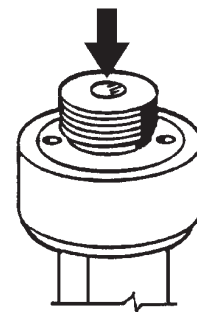

FIGURE 4
- c. Depress actuation plunger stem, located on top of valve, and relieve all cylinder pressure. See Figure 4. It may be necessary to repeat this step a number of times until all pressure is relieved.